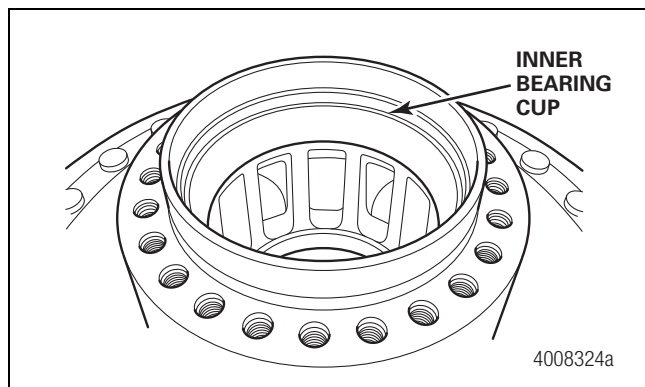

Figure 15.1
1. If removed, lubricate the hub bores and use a press and driver to install the inner and outer bearing cups into the hub assembly. Figure 15.1.